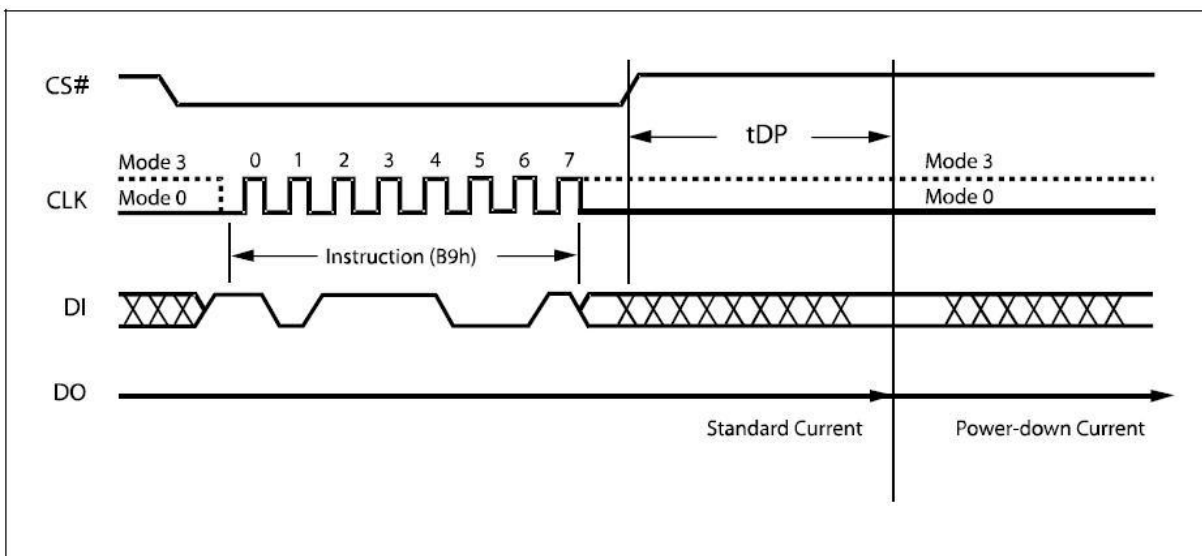

Figure 32. Deep Power-down Instruction Sequence Diagram
The instruction sequence is shown in Figure 32. Chip Select (CS#) must be driven High after the eighth bit of the instruction code has been latched in, otherwise the Deep Power-down (DP) instruction is not executed. As soon as Chip Select (CS#) is driven High, it requires a delay of t_{DP} before the supply current is reduced to ICC2 and the Deep Power-down mode is entered.